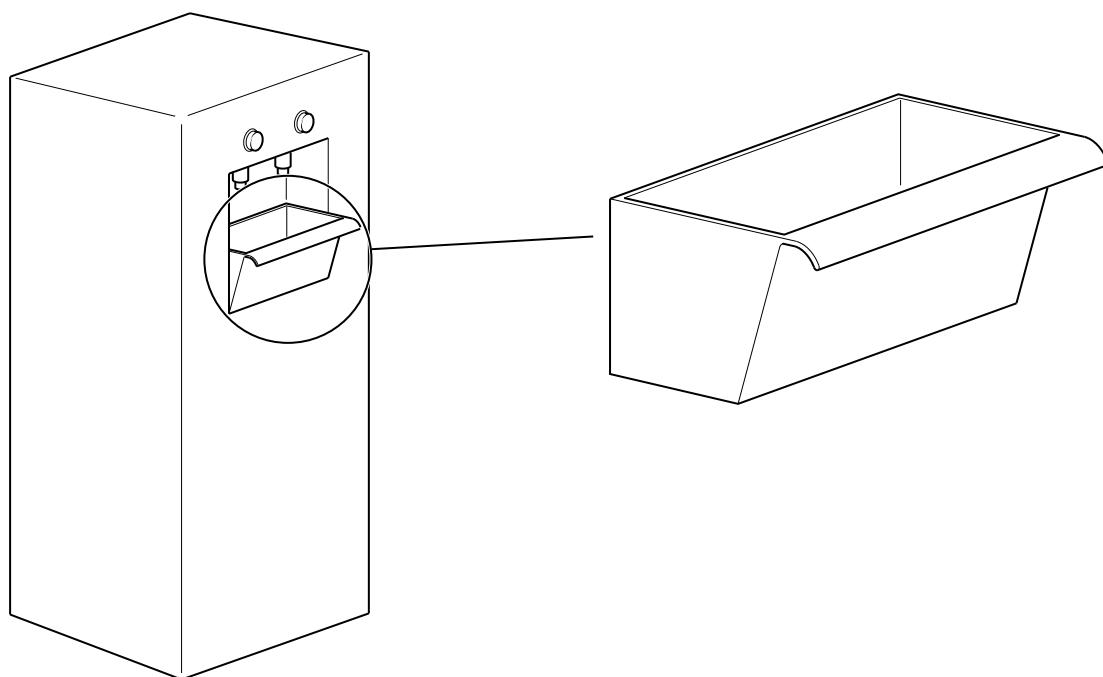

Fig. 8
Fig. 8 shows a tray to catch spills from a drinks dispenser.
- (a) Give **four** justified design requirements for the tray shown in Fig. 8.
- (b) Describe **two** examples where anthropometric data would have been used in the design of the tray shown in Fig. 8.
- (e) (i) State a **suitable specific material** for the tray shown in Fig. 8.
- (ii) Describe, in detail, how the tray shown in Fig. 8 would be manufactured as a batch of 250.